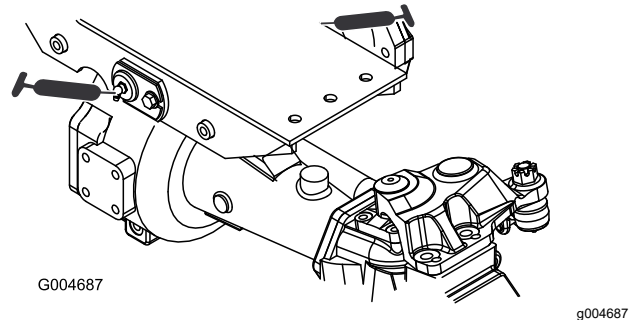

Figure 39
- 2 front and rear-axle-pivot bushings (Figure 39)